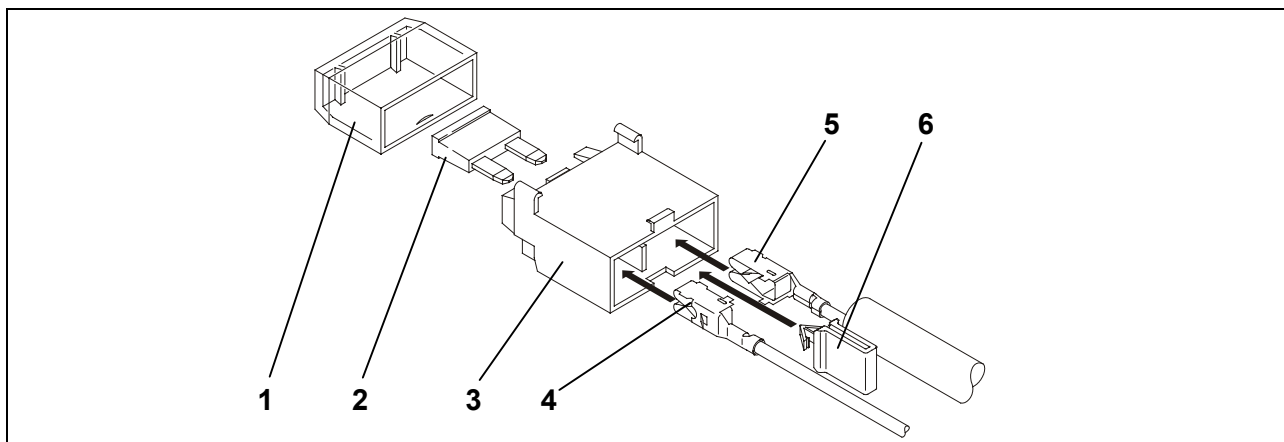

Fig. 3: Fuse holder assembly
14. Let the quick-connect receptacle of the red cable (Fig. 3/5) of the cable harness and the one of the supplied single red cable (Fig. 3/4) lock into place in the fuse holder (Fig. 2/6).
15. Install the yellow clip (Fig. 3/6).
16. Insert the fuse (Fig. 3/2) and fit the cover (Fig. 3/1).